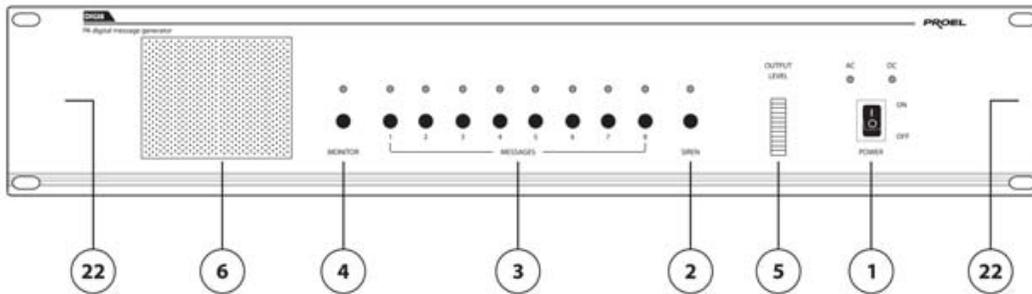
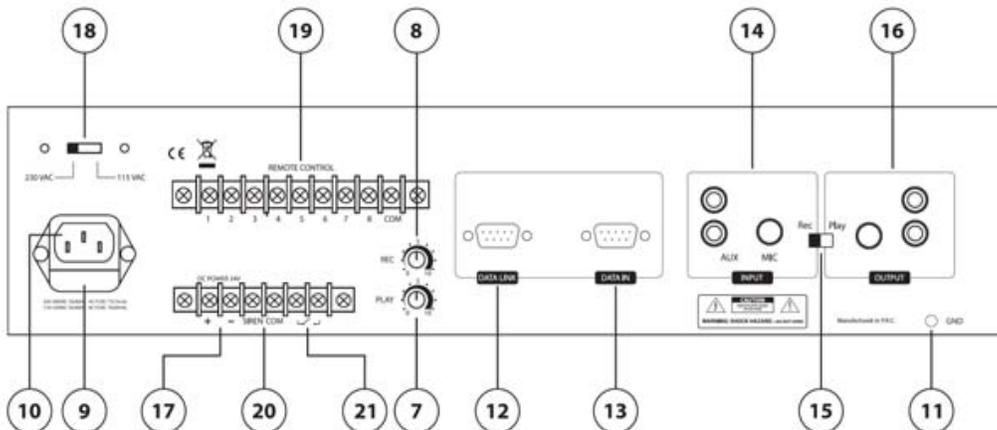

fig. 1
fig. 2
- To power the unit, connect in position 18 of **fig.2**, the power cord included in the unit package
- Do not use contemporaneously the main power supply (230 Vac) and DC power supply (24 V dc) to ensure a good unit operating . To access to DC POWER SUPPLY 24 V dc (**fig.2**), unscrew to remove the unit protection cover . To ensure the proper power supply and to avoid the unit overheat, use cables with section at least of 2,5 mm² .
Position the rear selector (**fig.2** ref.15) on “**PLAY**”, activate any key corresponding to Message1 - Message8 or SIREN (**fig.1** ref.3/2), the recorded message is played.
Position the rear selector (**fig.2** ref.15) on “**REC**”, press any key corresponding to Message1 - Message8 or SIREN (**fig.1** ref.3/2), the corresponding and recorded message is broadcasted .